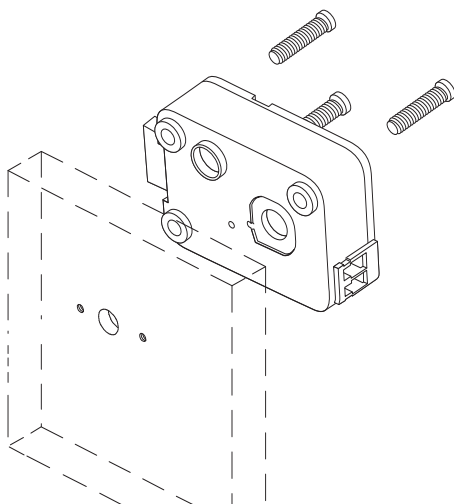

Figure 12
- 3). Using the three (3) mounting screws provided by the factory, screw down the lock to the mounting plate or door, see *Figure 12*.